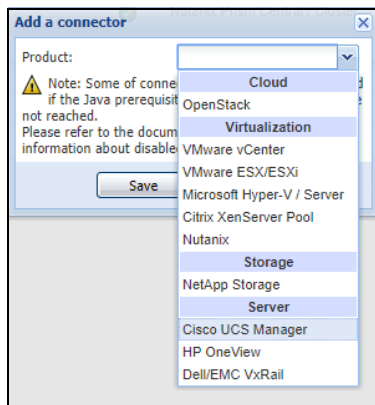

Figure 95. Add a Connector Product Selection Dialog
1. From the Add a Connector dialog, select VMware vCenter from the Product drop-down list (see Figure 95). A second Add a connector dialog displays for your product connector selection.